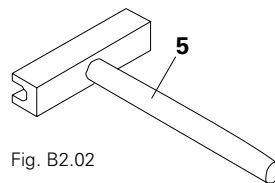

Fig. B2.02
Tie rod wrench (5) for one-man tie point operations from one side of the formwork. (Fig. B2.02)